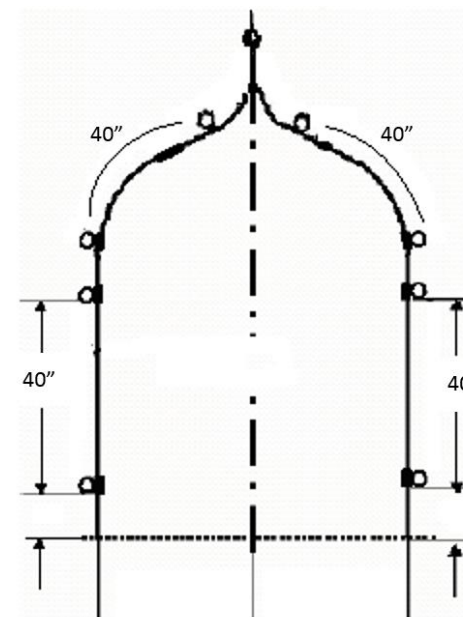

Figure 1: Positioning of the Pergola Cross Poles
- Slide the 2 top spacer bars onto 2 way and 3 way connectors. Ensure that the 3 way connector is in the middle then slide the Top Spacer Bars and connectors into the top of the Gothic Curves (as shown in Figure 1). The Top Spacer Bar should be approximately 3 inches from the top of the curve. Once in place tighten the grub screws.
- The second Pergola Cross Pole needs to be placed 40" below the top Cross Pole, to allow for the lattice infill as illustrated in Figure 1. This may require the second cross pole to be positioned on the join between the curve and the upright.
- If you are have chosen the lattice option you will need to position the Cross Poles, on the uprights, approximately 40" away from one another, as illustrated in Figure 1, to accommodate the lattice infill.